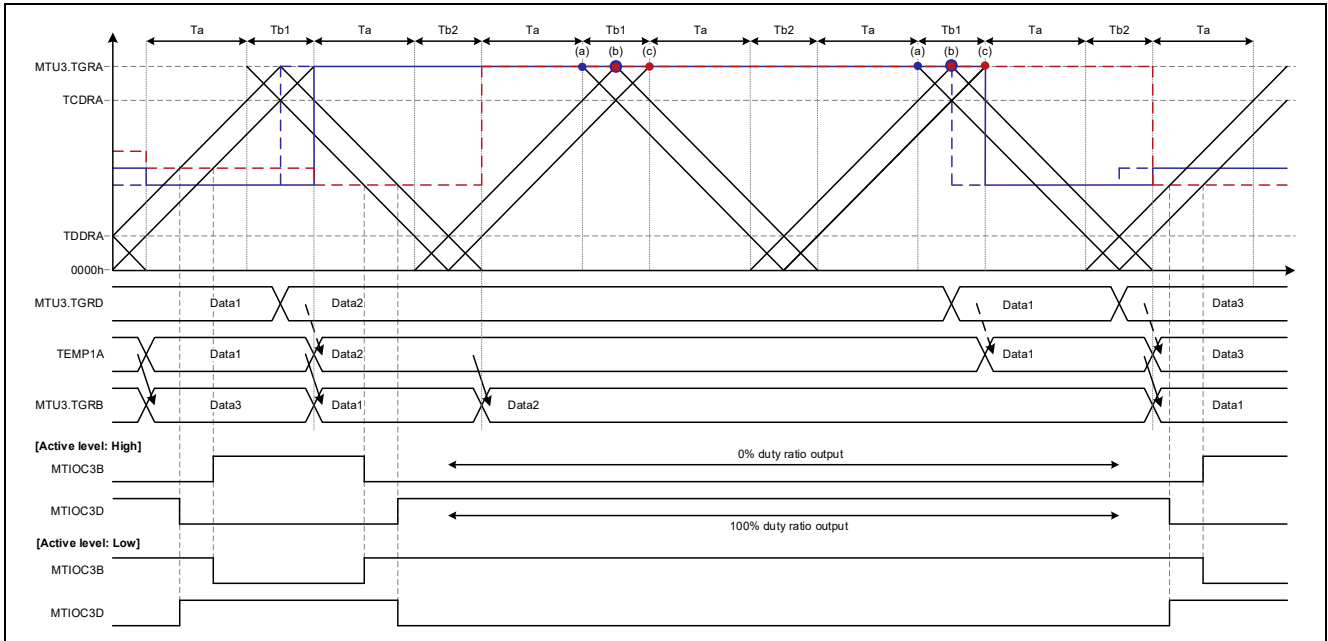

**Figure 1.6 Complementary PWM Mode 2 Operation Example
- [Operation example 4] Figure 1.6, Complementary PWM Mode 2, Output Start: Trough, Ta Interval Overwrite
Figure 1.6 shows an operation example of buffer overwrite in the Ta interval in complementary PWM mode 2. Except for the difference in the buffer overwrite timing, the operation is the same as that shown in Figure 1.5.